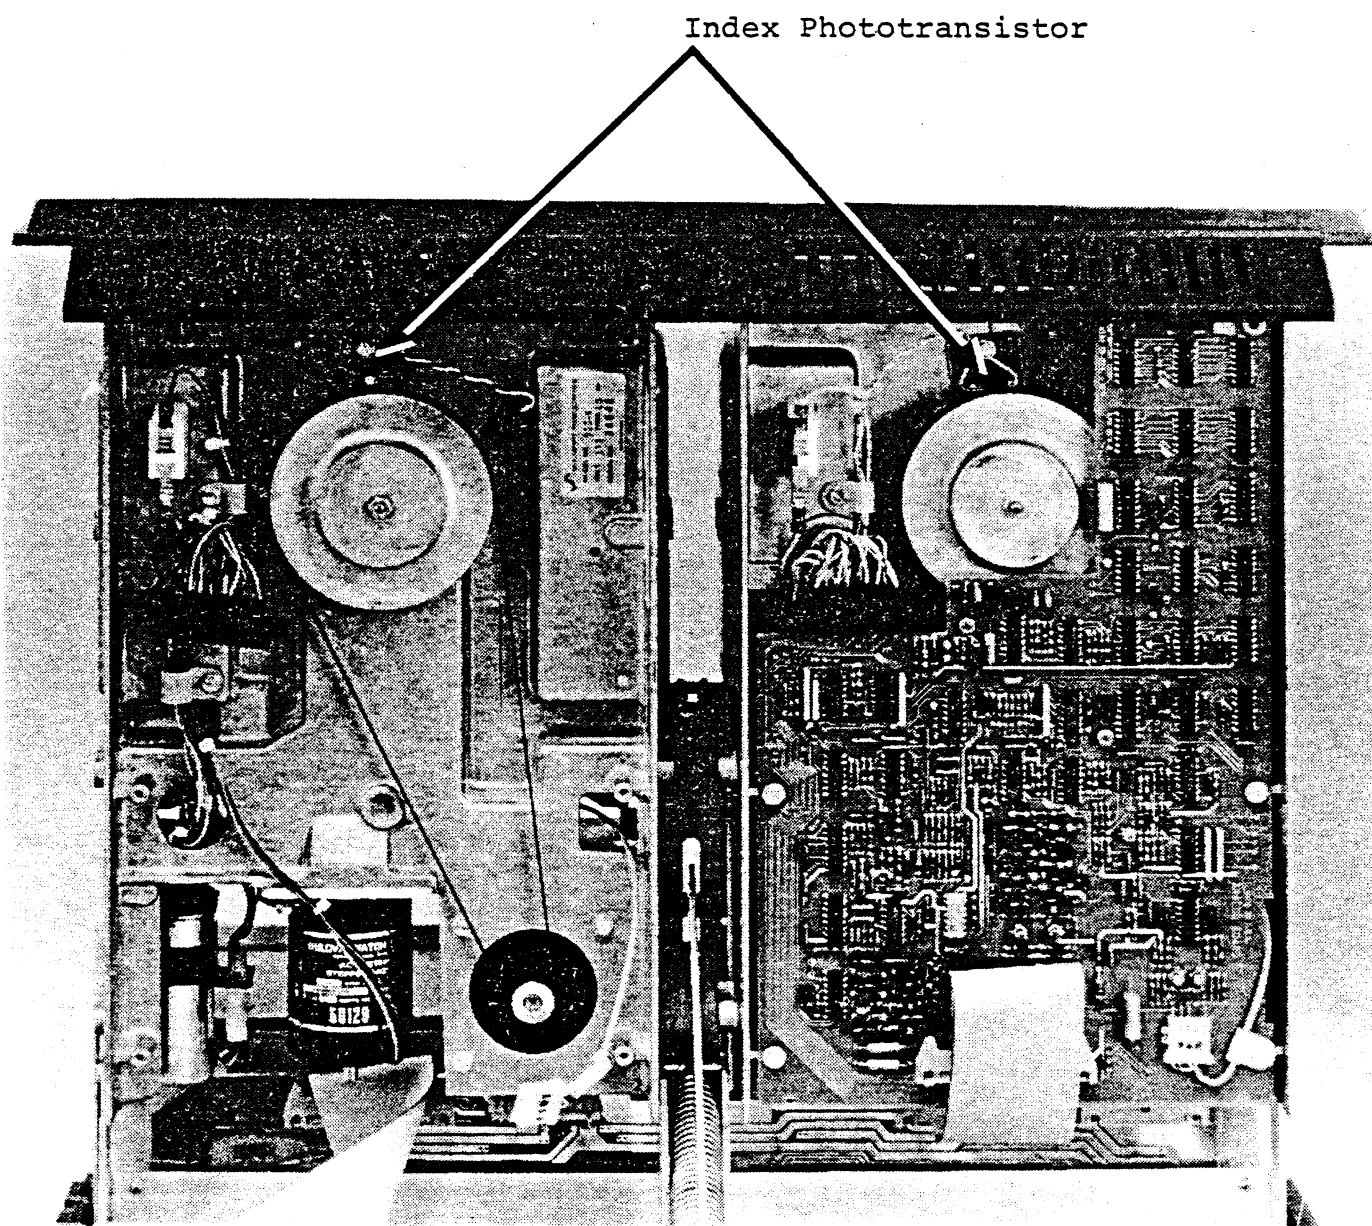

Figure 4-7. Dual Disk Drive Component Locations-
- d. If adjustment is necessary, loosen the holding screw in the index phototransistor assembly until the phototransistor is just able to be moved (Figure 4-7).